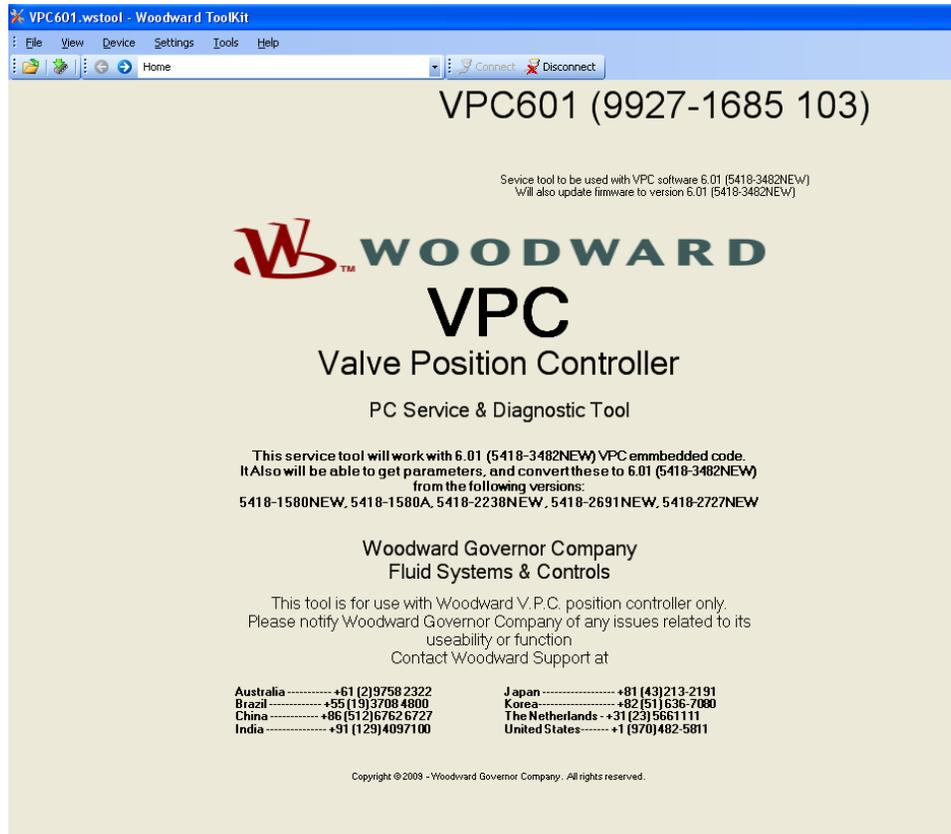

Figure 5-1. Serial Number & Application ID
3. Connect to the driver using the Service Tool. Click on the "Connect" button (Figure 5-1). A window will appear on the bottom of the screen. This will give you the serial number and application ID. The application ID is the software part number.